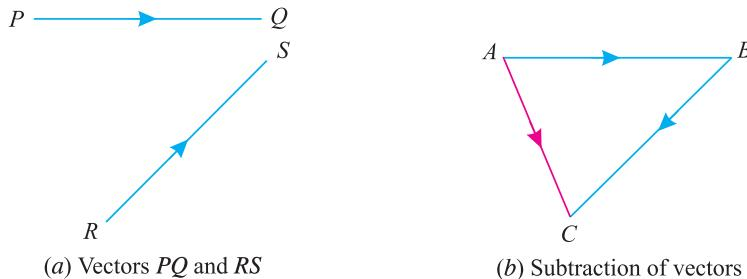

Fig. 1.4.
- 6.** *Subtraction of vectors.* Consider two vectors  $PQ$  and  $RS$  in which the vector  $RS$  is required to be subtracted as shown in Fig. 1.4 (a)
Take a point  $A$ , and draw line  $AB$  parallel and equal in magnitude to the vector  $PQ$  to some convenient scale. Through  $B$ , draw  $BC$  parallel and equal to the vector  $RS$ , but in *opposite direction*, to that of the vector  $RS$  to the same scale. Join  $AC$ , which will give the resultant when the vector  $PQ$  is subtracted from vector  $RS$  as shown in Fig. 1.4 (b).